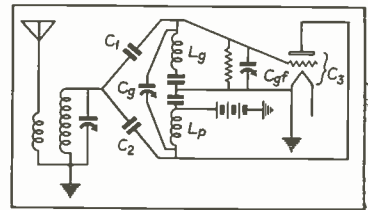

Fig. 3.
FIG. 3. THE OSCILLOSCOPE PATTERN (A) IS CHANGED TO THAT SHOWN AT (B) WHEN THE RELAXATION OSCILLATOR IS APPLIED, THUS INDICATING IN THIS CASE THAT THE OSCILLOSCOPE SPOT IS ROTATING CLOCKWISE.